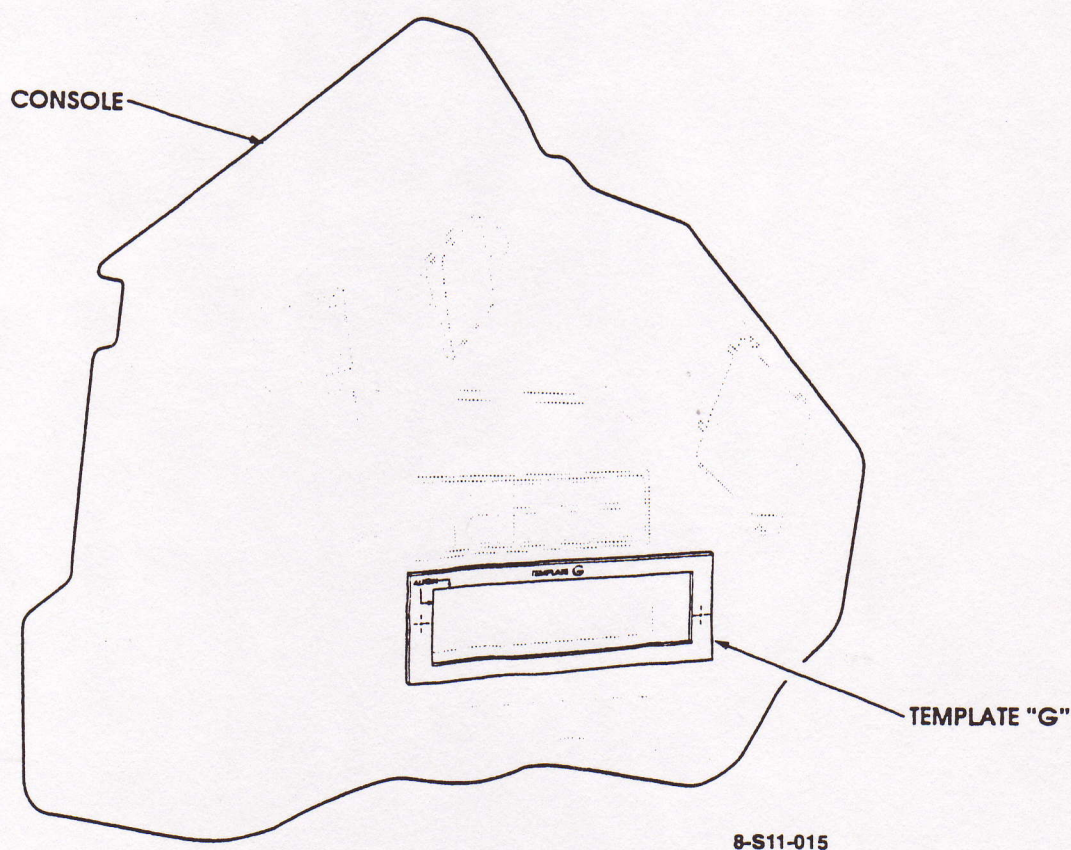

Figure 14: Control Head Cutout.
53. Use template "G" to resize the opening to accommodate the control head included in the kit (See Figure 14). Align the control head cutout in template "G" with the existing cutout in the console on the top and left edges. Mark the larger cutout dimension and the two bezel mount holes onto the console. Drill two 1/4" bezel mount holes and enlarge the control head cutout.